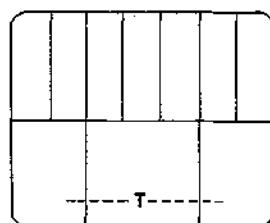

Fig. 5-7 On the TV screen
- 3) Depress the TRACKING button < or > on the Front panel until "T" mark can be seen in the center position as shown in Fig. 5-7.